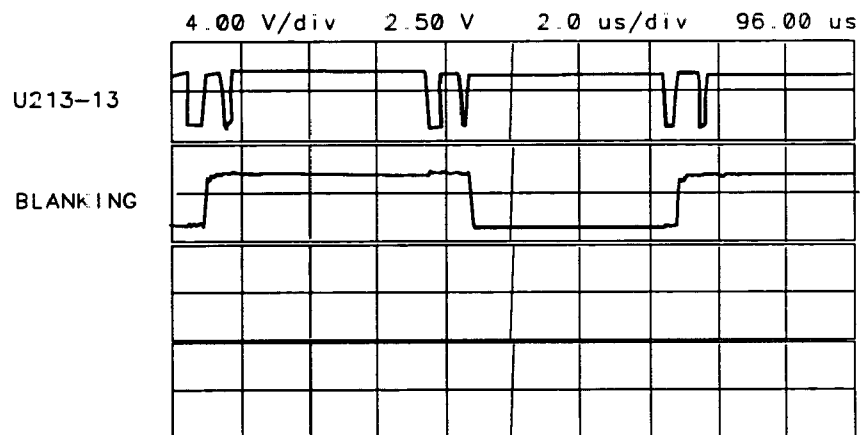

Figure 10-4. Expanded Blanking Waveforms
6. Set the oscilloscope to the following settings to expand the first and fourth traces. This displays how the rising edges of U213-13 determine the transitions of the blanking pulses. See Figure 10-4.